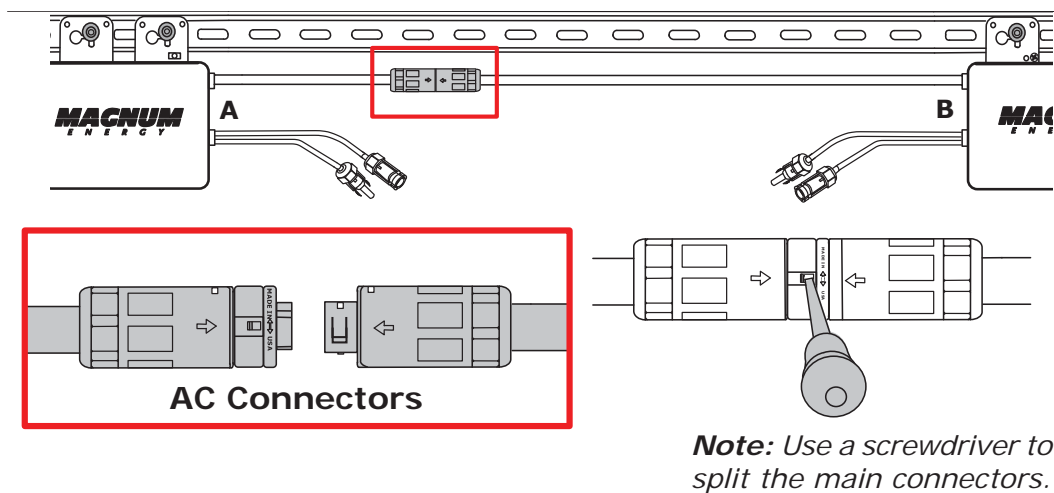

Figure 8, Connecting the MicroGTs via AC Connectors
1. Plug the female AC connector of the first MicroGT inverter into the male connector of the next microinverter (Figure 8), and so on, to form a continuous AC branch circuit.